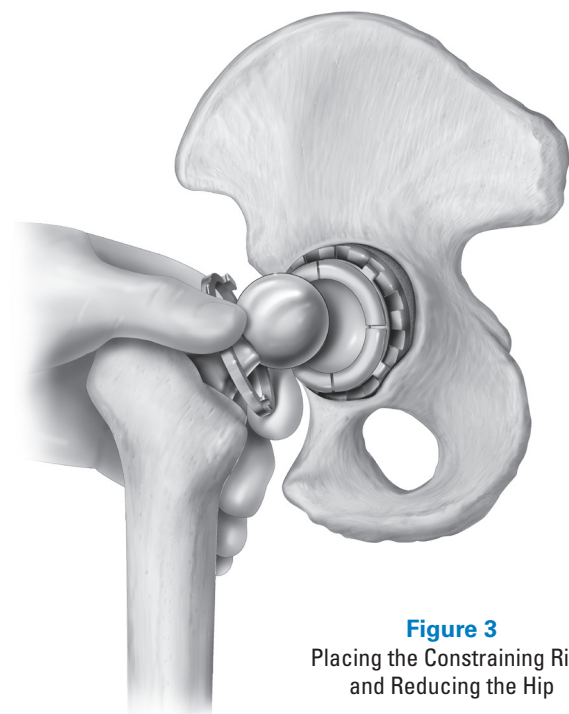

Figure 3
Step 1: With the femoral head securely fixed to the trunnion, place the Novation Crown Cup Constraining Ring that corresponds to the acetabular cup (i.e., Group 1, 2, 3, 4 or 5) around the trunnion with the tab features facing the acetabulum (Figure 3).